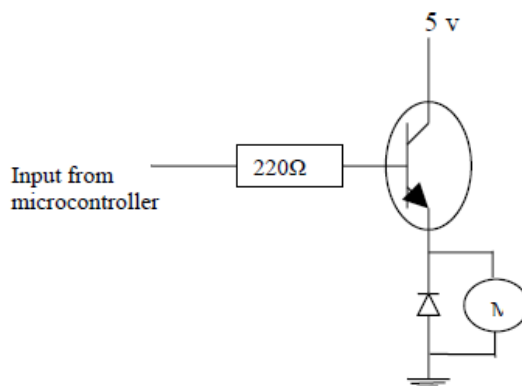

Figure 2: Connecting motor to microcontroller
- (1) Serial cable to connect serial port of computer to programmable serial port of kit.
- (2) 8-wire cable to connect port-b to LEDs of kit.
- (3) Cable to select target microcontroller slot to program.
- (4) 2-wire cable to connect port-d (pd4 or pd5) to analog input from light sensor.
- (5) For motor and LDR connection follow figure 2 and 3 respectively. You may be able to use MOSFET for driving Motors also.
- 2) In this lab your task is to control the speed of the motor based on the light intensity given by LDR. Connect Motor and LDR to microcontroller as per circuit given in figure 2 and 3. Write code which reads the LDR, light intensity and based on that light intensity it rotates the motor very fast, fast, slow or very slow.